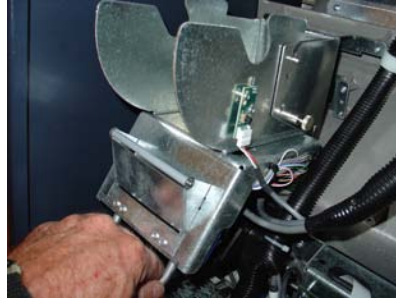

Figure 6-7. Printer handle.
10. Grasp the handle below the printer feed slot (Figure 6-7) and pull the release pin located on the right side of the printer bracket (Figure 6-8).